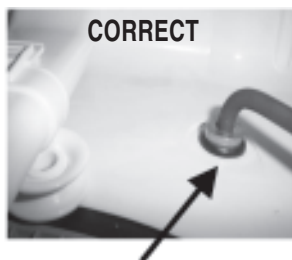

FIGURE 14
29. Install wiring connectors onto the new heating element and seat it into the mounting holes and the bracket retainers. (Fig. 14)